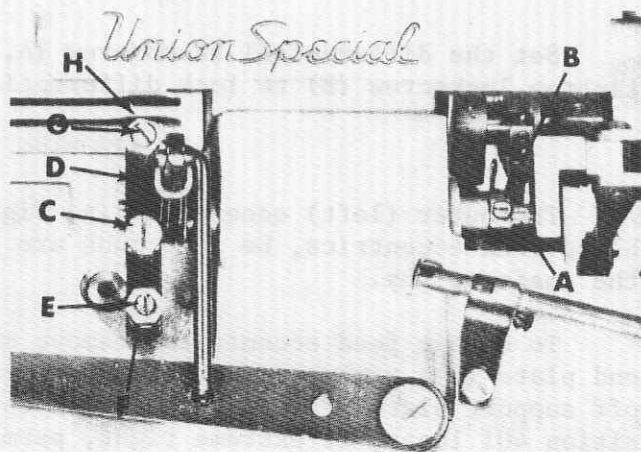

Fig. 18
Assemble the presser foot to presser arm. With needle in high position, swing presser arm into sewing position and set the presser foot to align needle holes (front and back) and flat on throat plate. The front edge of needle hole in presser foot must be aligned with front edge of needle hole in throat plate. It is important that the bottom of the presser foot be flat on the throat plate. If necessary, presser foot can be realigned with throat plate slots by shifting the foot lifter lever shaft (A, Fig. 18). To move the shaft, loosen screws in collar (B) and clamp screw (C) and then shift the foot lifter lever shaft to the left or right as required. Retighten collar screws and clamp screw.
The foot lifter lever arm (D, Fig. 18) and the collar (B) secure the shaft. Be sure the presser arm does not bind and rise when presser foot release lever is unlocked.
Adjust lifter lever stop screw (E, Fig. 18) so that presser foot can be raised no higher than upper looper or spreader will permit; then lock the nut (F). There should be from 1/16 to 1/8 inch (1.59 to 3.18 mm) free motion of foot lifter lever before the presser foot begins to rise. This adjustment should be made with screw (G) and locked with nut (H). Re-assemble the chip guard, fabric guard and cloth plate. To assemble chip guard, turn handwheel until upper knife assembly reaches its highest position.